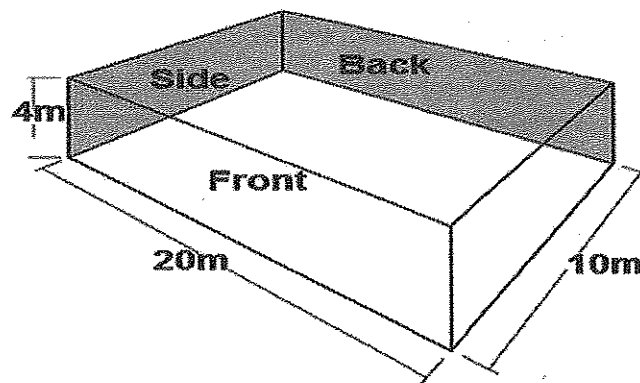

Figure 2 /Rajah 2
- (b) A room is 10m width \times 20m length \times 4m height as shown in Figure 2. The front is covered by glass, the back by curtains, and both sides by plasterboard. The ceiling is acoustical board, and the floor is made of concrete. Calculate the total absorption surface area of this room at 500Hz (Refer Table 4).